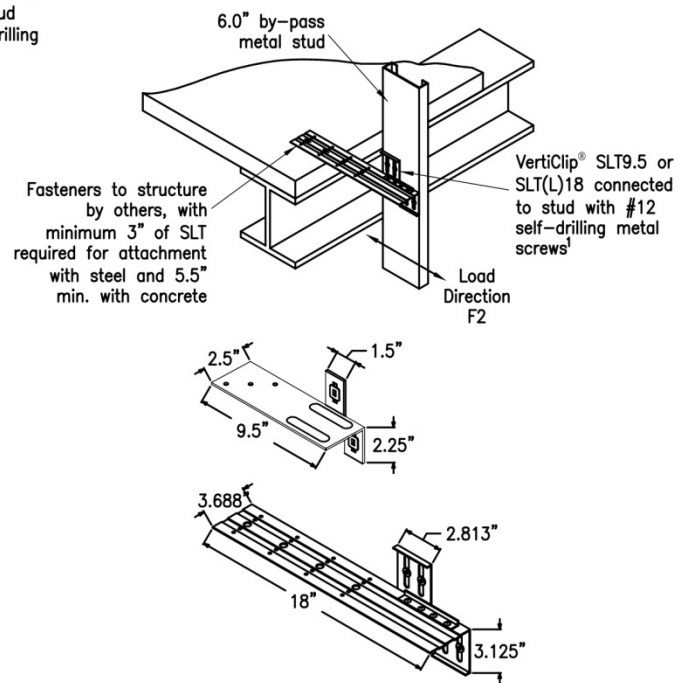

Figure 4 – VertiClip® SLT-9.5 and SLT(L)18
3.1.5 VertiClip® SLT: VertiClip® SLT–9.5 and SLT(L)–18 are formed steel plates having one upward and one downward vertical leg at the end of the connectors that attach to the curtain wall framing members. The minimum base-metal thickness of the plates is 0.0966 inch (2.5 mm). Each leg of the SLT–9.5 is $1\frac{1}{2}$ inches (38 mm) wide by $2\frac{1}{4}$ inches (57 mm) high, and has one vertical slot measuring $\frac{5}{16}$ inch (8 mm) wide by $1\frac{3}{8}$ inches (35 mm) long, allowing for a maximum 1-inch (25.4 mm) vertical movement of the framing members. Each leg of the SLT(L)–18 is $2\frac{13}{16}$ inches (71 mm) wide by $3\frac{1}{8}$ inches (79 mm) high, and has two vertical slots measuring $\frac{3}{8}$ inch (9.5 mm) wide by $2\frac{1}{4}$ inches (57 mm) long, allowing for a maximum of $1\frac{7}{8}$ inches (47.6 mm) of vertical movement between exterior wall elements and the primary structure. The bend in the steel plate at the vertical legs of the SLT(L)–18 is reinforced with two $\frac{3}{8}$ -inch-by- $\frac{5}{8}$ -inch (9.5 mm by 15.9 mm) L-shaped steel angles that are factory-attached with four $\frac{3}{16}$ -inch-diameter (4.8 mm) rivets. The angle reinforcement is $4\frac{3}{8}$ inches (111 mm) long and has a minimum base-metal thickness of 0.0677 inch (1.7 mm). Refer to Figure 4 for overall dimensions of the VertiClip SLT–9.5 and SLT(L)–18 connectors and a typical installation detail.